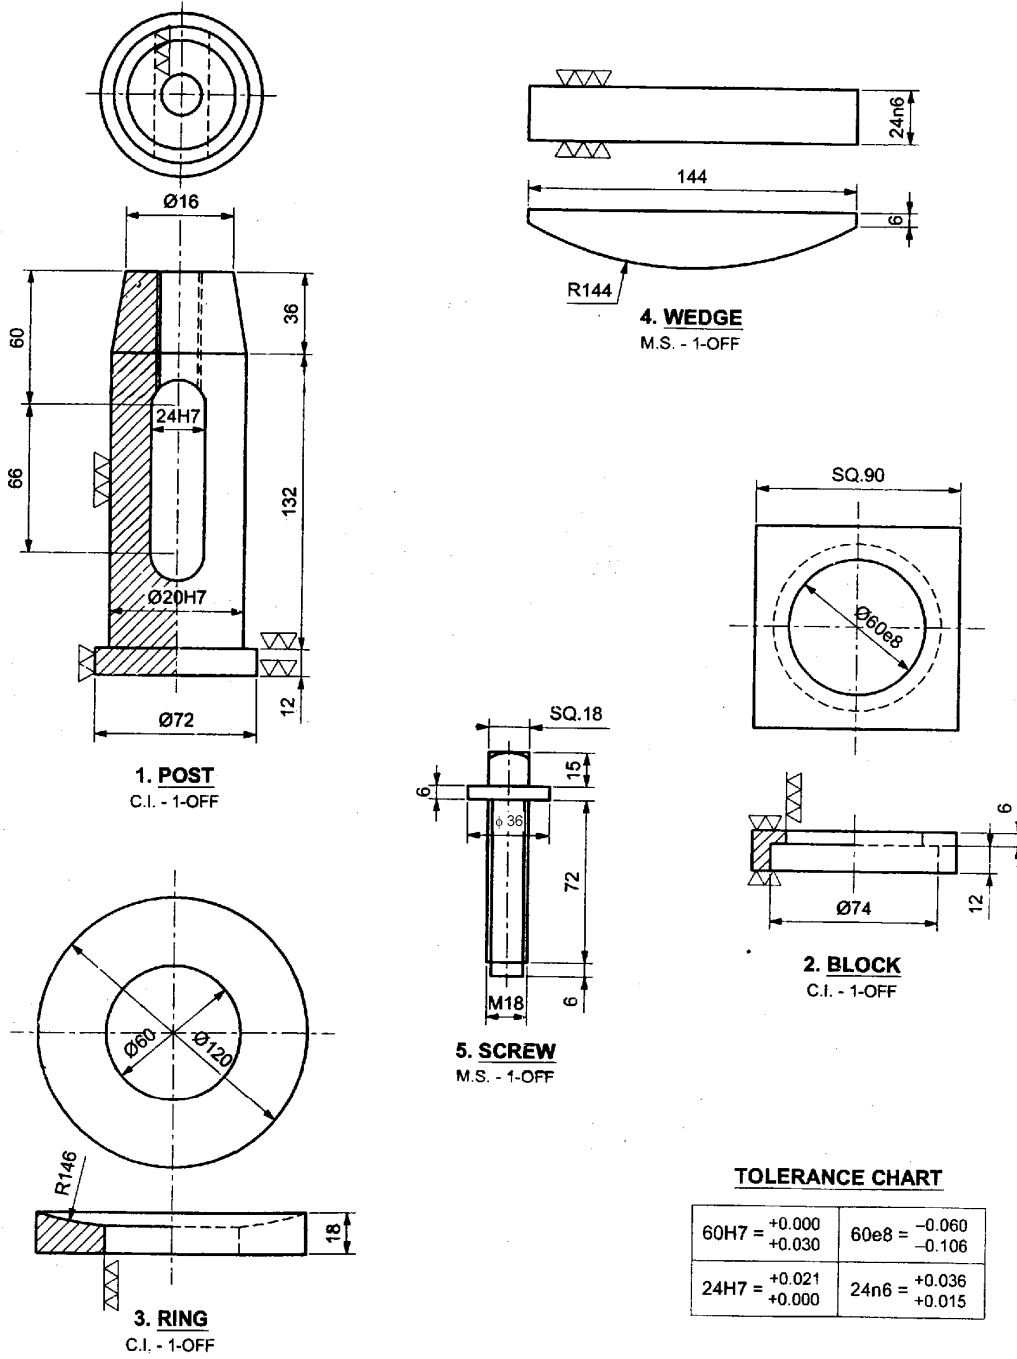

Figure No. 4.
- (a) Fig. No. 4 shows the details of tool post. Draw sectional F.V. and T.V. of the assembly. Prepare bill of material.